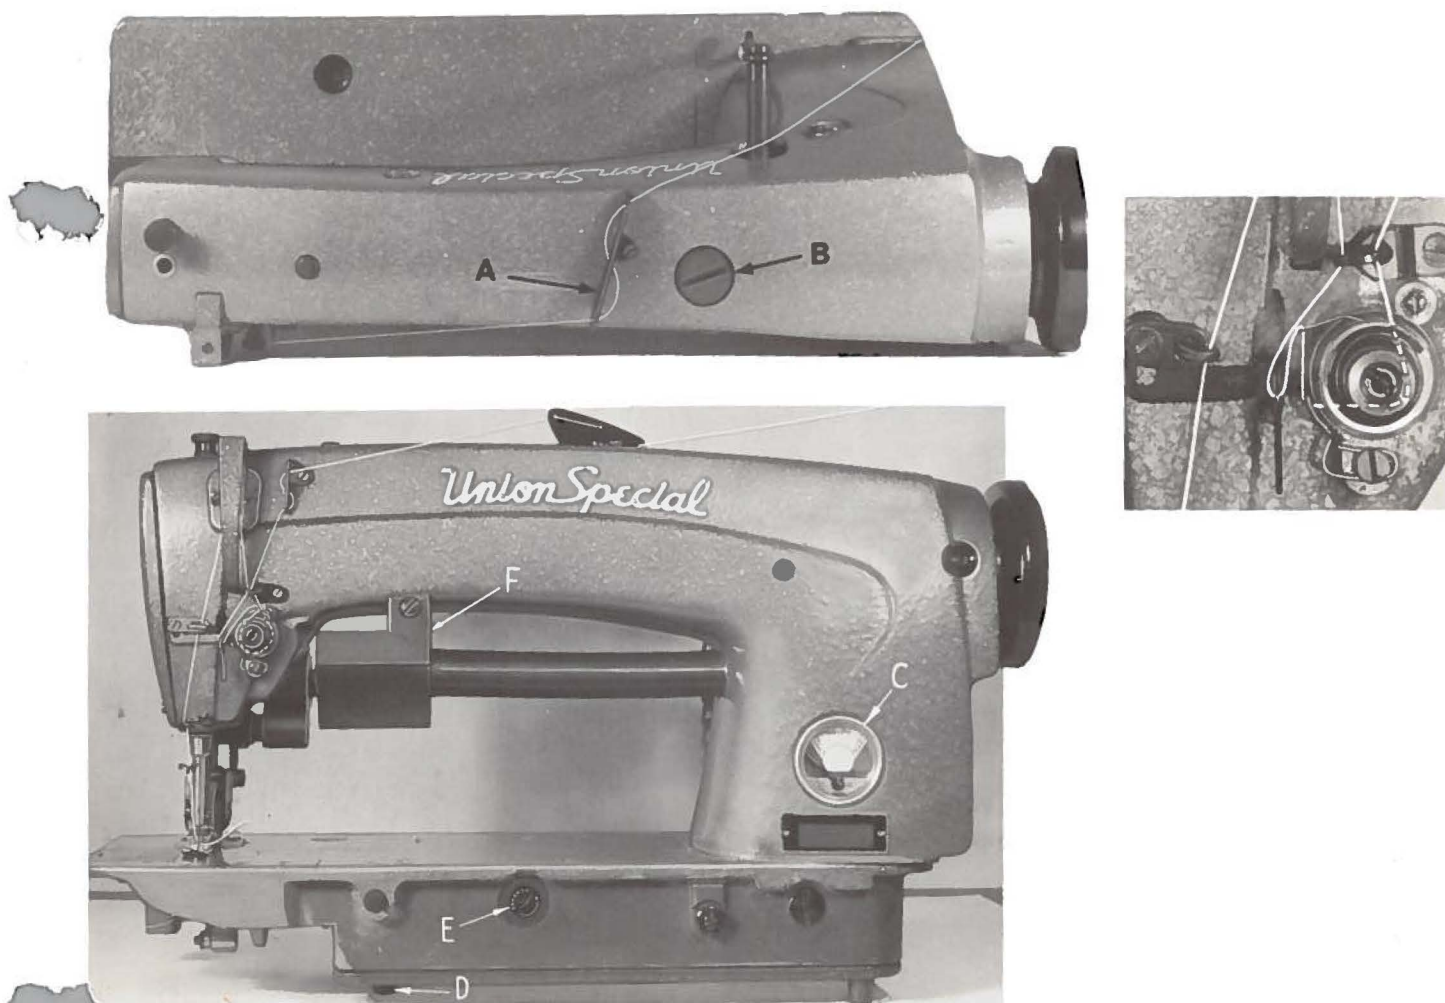

Fig. 2A
Insert hinge studs in holes provided for them in rear of cloth plate. Assemble the upper frame eyelet (A, Fig. 2A).
Thread machine as indicated in Fig. 2A. Threading at check spring has been enlarged for clarity. Needle is threaded from left to right.
Fill main reservoir at plug screw (B, Fig. 2A) and check oil level at gauge (C); oil is at maximum level when needle is in yellow band marked "FULL". Oil should be added when needle is in yellow band marked "LOW". Use a stainless water-white straight mineral oil of a Saybolt viscosity of 90 to 125 seconds at 100° Fahrenheit in the main reservoir. This is equivalent to Union Special specification No. 175.
Oil may be drained from main reservoir by removing plug screw (D, Fig. 2A).
**NOTE:** The top driven grip-feed mechanism must be manually oiled at (F, Fig. 2A) twice daily.